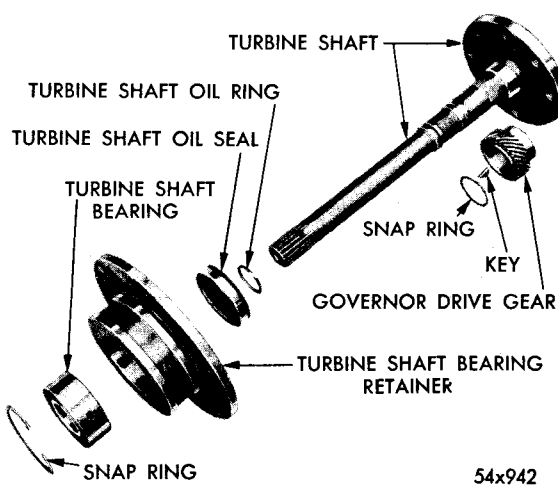

Fig. 38—Turbine Shaft Assembly (Disassembled View)
- (25) Remove the guide pin. Install screw Number One and tighten to 18 foot-pounds torque. After all the bolts are tightened, see that the Oil Pump drive sleeve operates freely.
- (26) Install the bearing retainer flange to the Converter Housing oil seal, in the recess, at the rear of the Converter Housing.
- (27) Refer to Figure 38, when re-assembling the Turbine Shaft as follows:
30. TURBINE SHAFT ASSEMBLY INSTALLATION (Fig. 38)